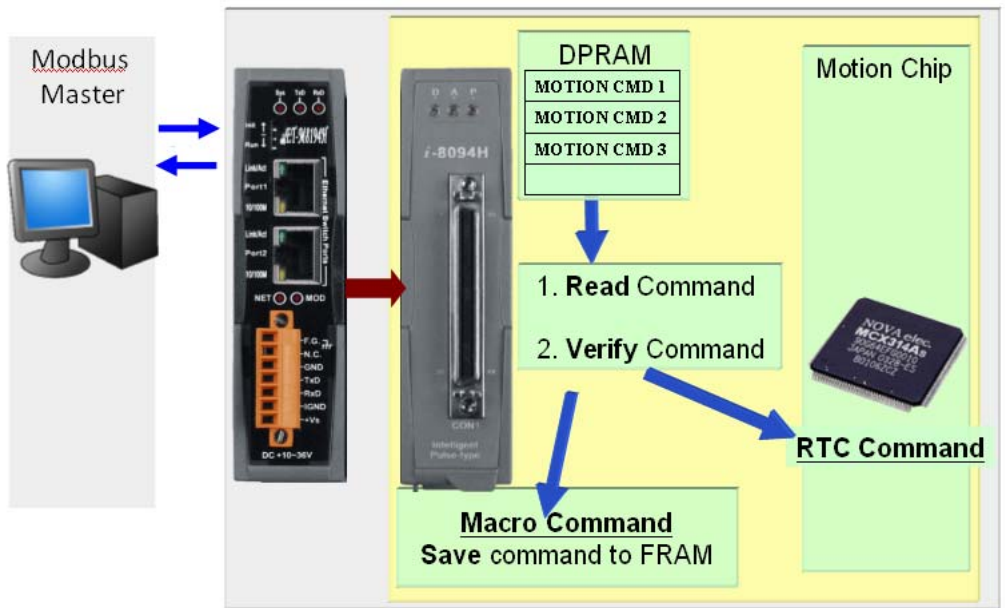

Figure 2: i8094H situated in slot 1 of the motion device
- The i8094H module (Figure 2) in slot 1 is mainly responsible for executing motion commands and storing the Macro tables in its non-volatile memory. The motion control chip and the non-volatile memory for storing Macro tables are part of the i8094H module. Furthermore it has a DPRAM (volatile FIFO buffer) which stores up to 29 commands for further processing.